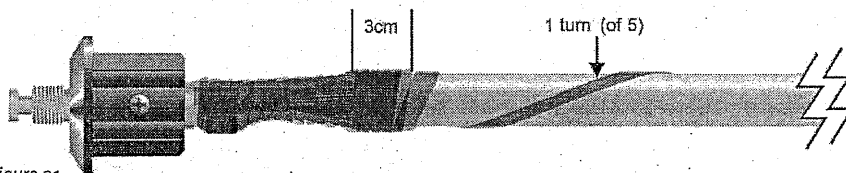

Figure 31.
- Once the tape has reached the crimp, start to stretch the remaining tape and using 50% overlap, cover the last 3cm of the White XLPE Insulation, over the brass lower connector and up to the black plastic section of the Terminal Base Assembly in multiple layers, completely covering the crimp and achieving as smooth and level a surface as possible, removing all sharp edges. (Figure 31)